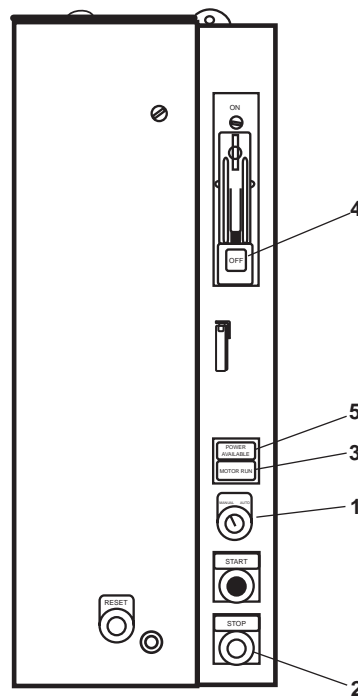

Figure 1. Air Compressor Motor Controller
1. Set the motor controller MANUAL-AUTO switch (figure 1 item 1) for both compressors to MANUAL.
2. On each motor controller, PUSH the STOP pushbutton (figure 1, item 2) and observe that the MOTOR RUN indicator light (figure 1, item 3) goes out and that the affected air compressor stops running.
3. Set both motor controllers' ON-OFF switches (figure 1, item 4) to OFF and observe that the POWER AVAILABLE indicator light (figure 1, item 5) goes out.